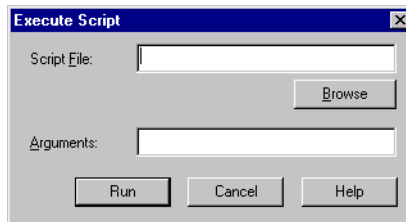

Figure 3-1. Execute Script Dialog Box
1. **In the File menu, click *Execute Script File*.** This displays the Execute Script dialog box, as shown in Figure 3-1.